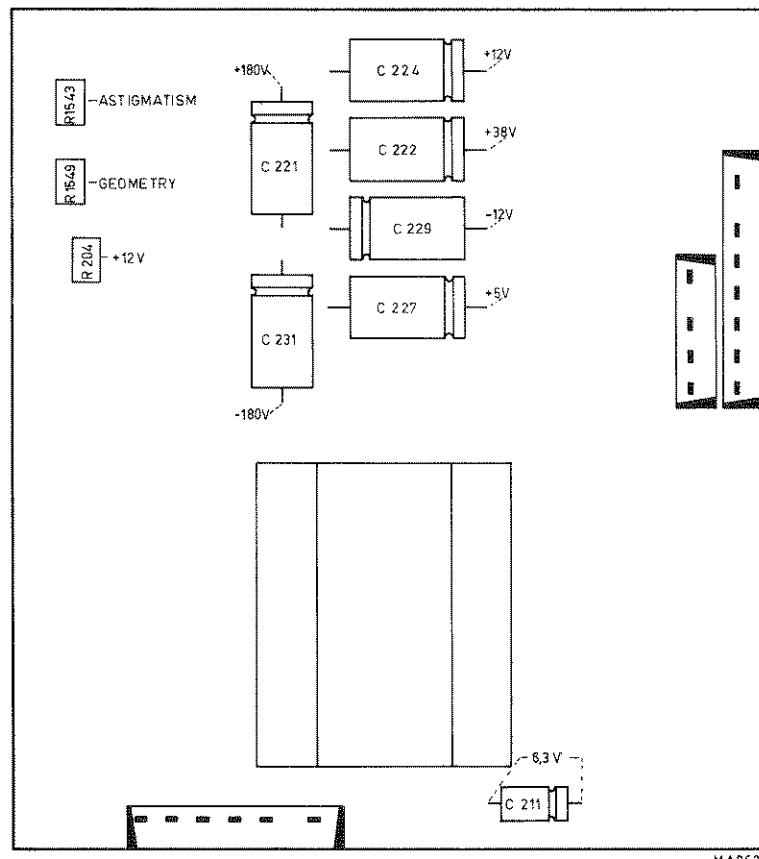

Fig. 3.15. Adjusting and checking the power supply
- Check that the voltage across capacitor C224 is +12 V, + or -0,25 V; if necessary readjust potentiometer R204 (Fig. 3.15).
C211 (Fig. 3.15)	6.3 V, ± 0,6 V
- Adjust FOCUS potentiometer R6 and astigmatism potentiometer R1543 for a sharp and well-defined trace (Fig. 3.15).
- If necessary readjust potentiometer R1549 (Fig. 3.15).